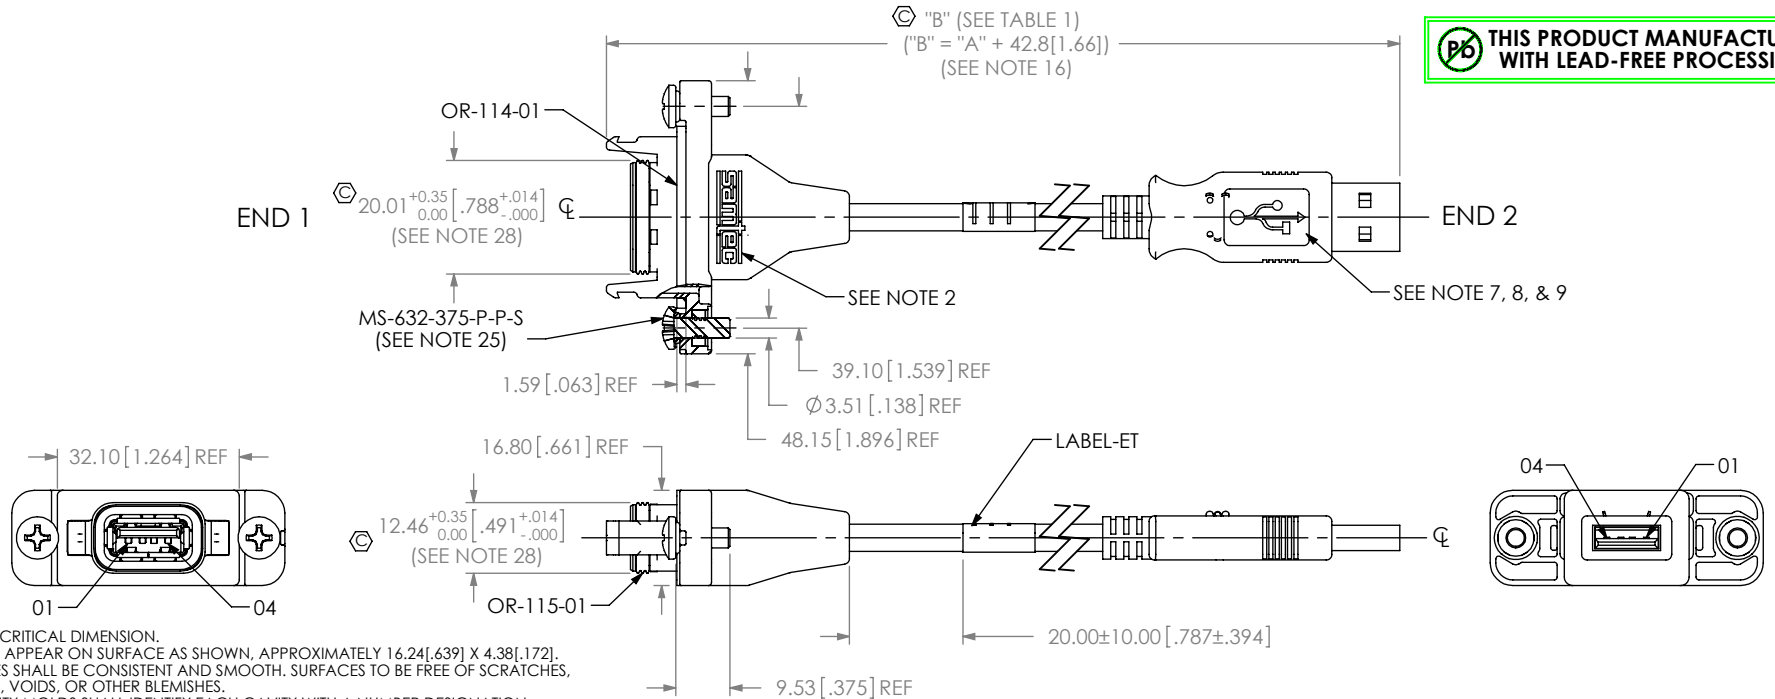

FIG 1
-AM: USB A NOT SEALED (USB A END NOT SEALED ONLY) (SEE SHEET 1, FIG 1)
(DIFFERENT AS SHOWN, OTHERWISE SAME AS FIG 1)